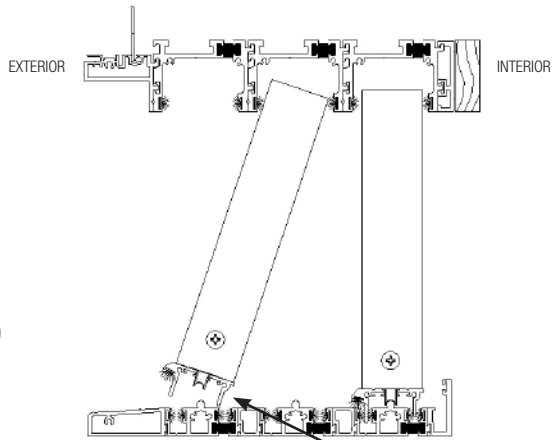

FIG. 17
- B) Beginning with lead or secondary lead panel, holding the panel at an angle toward the head track, insert the top of the panel into the inner most head track and swing the bottom of the panel inward until it is parallel with the top and sits with the wheels on the corresponding sill as shown in Fig. 17.